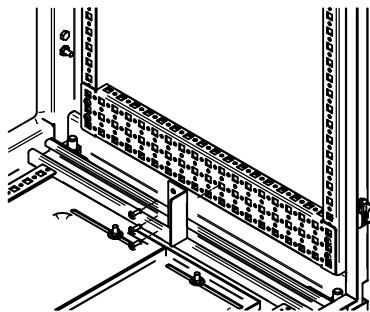

FIG 5. (800MM WIDE)
D) Install catch brackets to grid strap. For installing swing frames in 800mm wide enclosures refer to FIG 5. For installing swing frames in 600mm wide enclosures or swing panels refer to FIG 6. Secure them with two #12 thread rolling screws per bracket.